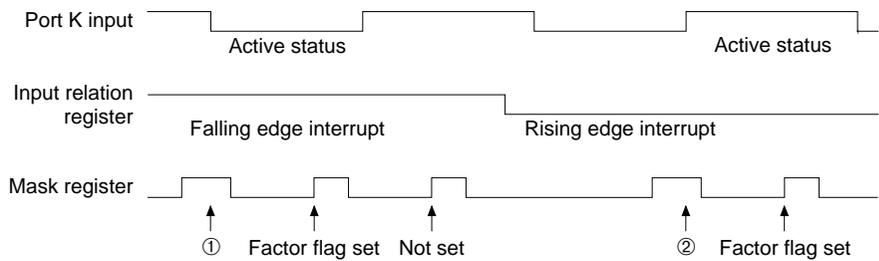

Fig. 15.2.1 Input interrupt timing
When an interrupt is triggered at the falling edge of an input terminal, a factor flag is set with the timing of ① shown in Figure 15.2.1. However, when clearing the content of the mask register with the input terminal kept in the Low status and then setting it, the factor flag of the input interrupt is again set at the timing that has been set.
When an interrupt is triggered at the rising edge of the input terminal, a factor flag will be set at the timing of ② shown in Figure 15.2.1. In this case, when the mask registers cleared, then set, you should set the mask register, when the input terminal is in the Low status. In addition, when the mask register = "1" and the content of the input relation register is rewritten in the input terminal active status, an input interrupt factor flag may be set. Thus, you should rewrite the content of the input relation register in the mask register = "0" status.
- (1) When BZ,  $\overline{\text{BZ}}$ , FOUT,  $\overline{\text{FOUT}}$ , and PTCLK (DC) are selected by mask option, a hazard may be observed in the output waveform when the data of the output register changes.
- (2) Because the R00–R03, R10–R13, R20–R23, and R30–R32 (R33) ports gain high impedance during initial reset, be careful when using them as interface with external devices and the like.
- (3) When R33 port is selected for 2 states and DC (PTCLK) output by mask option, R33 terminal becomes undefined at initial reset.